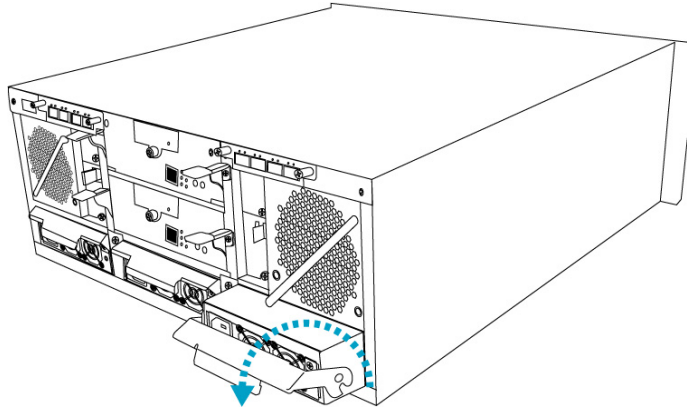

Figure 5-8: Dislodging the PSU
- Step 3. **Remove the failed module** by pressing the retention handle down until the PSU is released from the enclosure chassis. (See **Figure 5-8**)